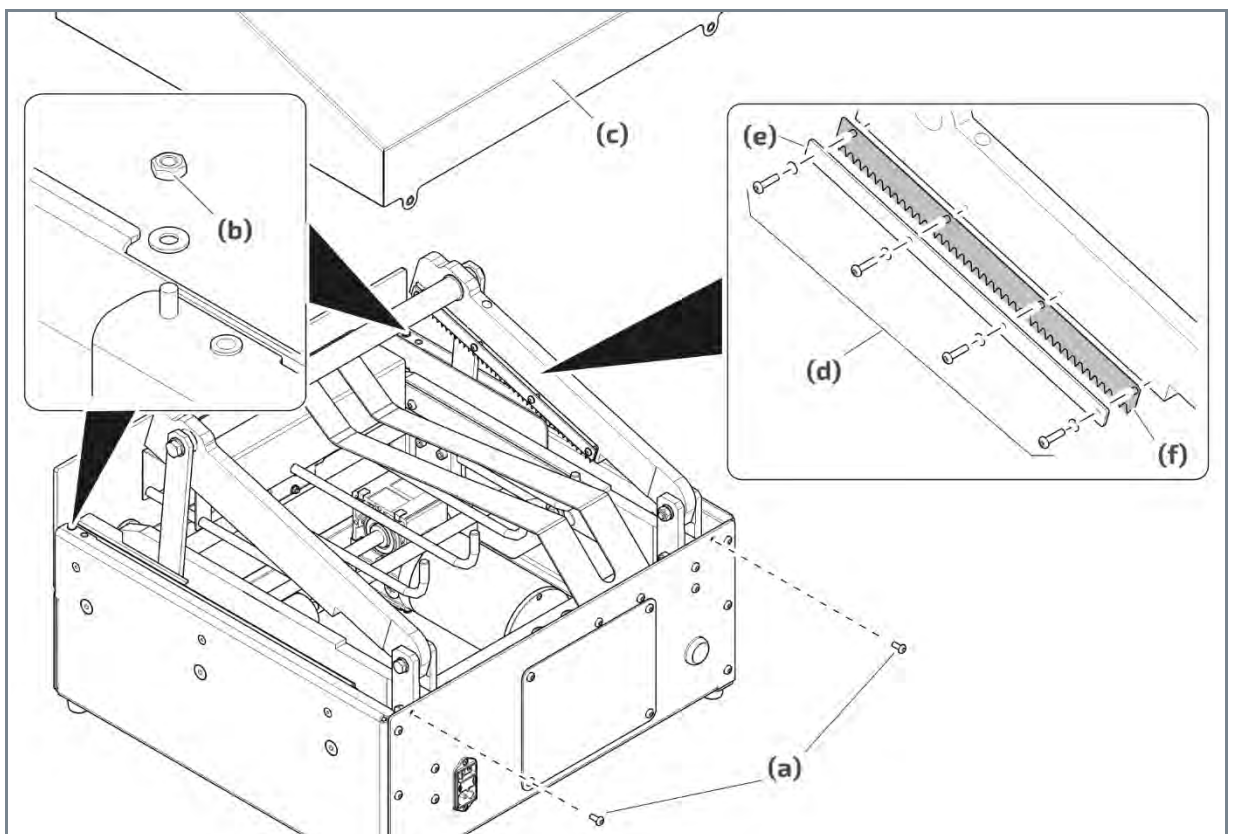

Fig. 8 Replacing the blade
2. Remove the two M5 hexagon socket screws **Fig. 8 (a)** on the back of the machine.
3. Open the drawer and remove the two M4 hexagon nuts incl. washers **Fig. 8 (b)**.
4. Remove the housing cover **Fig. 8 (c)**.
5. Remove the four M4 hexagon socket screws, including the washers, **Fig. 8 (d)** and remove the clamping strip **Fig. 8 (e)**.
6. Replace the blade **Fig. 8 (f)** and screw it together with the clamping strip **Fig. 8 (e)** and M4 hexagon socket head screws, including the washers, **Fig. 8 (d)**.
8. Place the housing cover **Fig. 8 (c)** on the housing and screw it on with the two M4 hexagon nuts, including the washers, **Fig. 8 (b)** and the two M5 hexagon socket screws **Fig. 8 (a)** on the back of the machine.